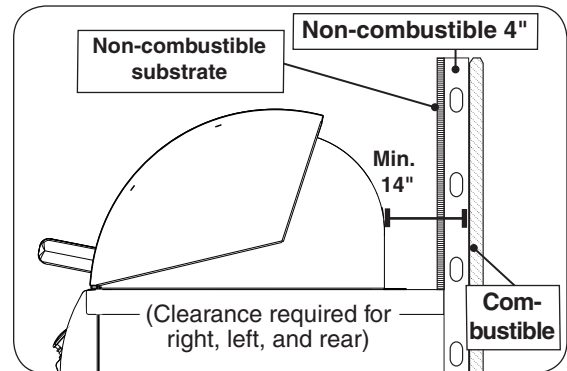

Fig. 12-3 Clearance 'B' Diagram
- The grill must have a minimum of 18" right, left, and rear clearance from any combustible wall (see Fig. 12-3).